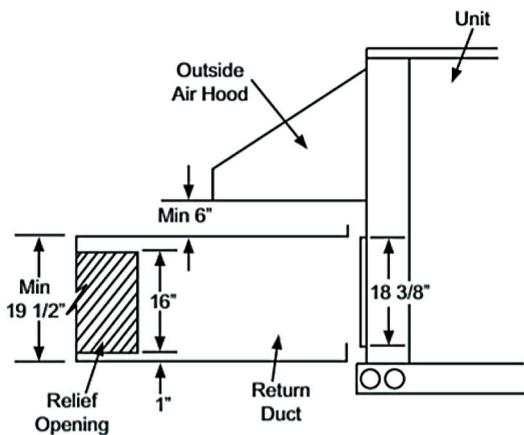

Fig. 31 — Relief Damper
1. Install the field provided horizontal ductwork onto the unit. Duct height must be at least $19 \frac{1}{2}$ inches high, however the duct can be no taller than the top of the relief opening in the bottom panel, or airflow into the outside air hood will be restricted. See Fig. 31.
2. Cut a 16 in. x 36 in. opening in the return duct for the relief damper (see Fig. 31).